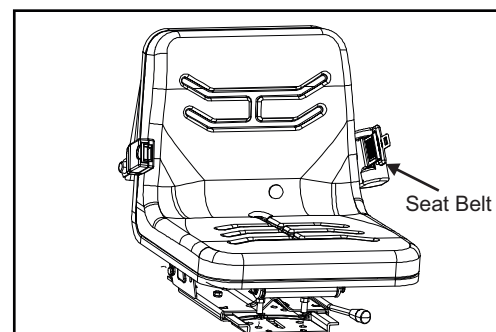

Fig. 4.27b
- Check the seat belt for damage. A damaged seat belt must be replaced, Fig. 4.27b.